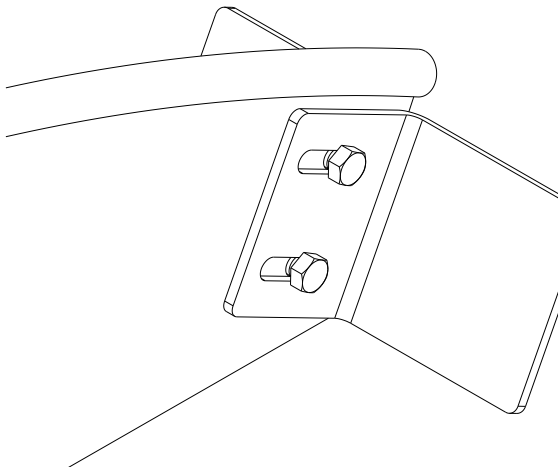

Figure 4.1
4. Drill (4) 3/4" holes in the center bow through the slots of the mounting brackets and secure with 3/4" bolts and lock nuts (**Figure 4.1**). OR Weld all around the center bow to the trailer. Make several passes around the center bow.